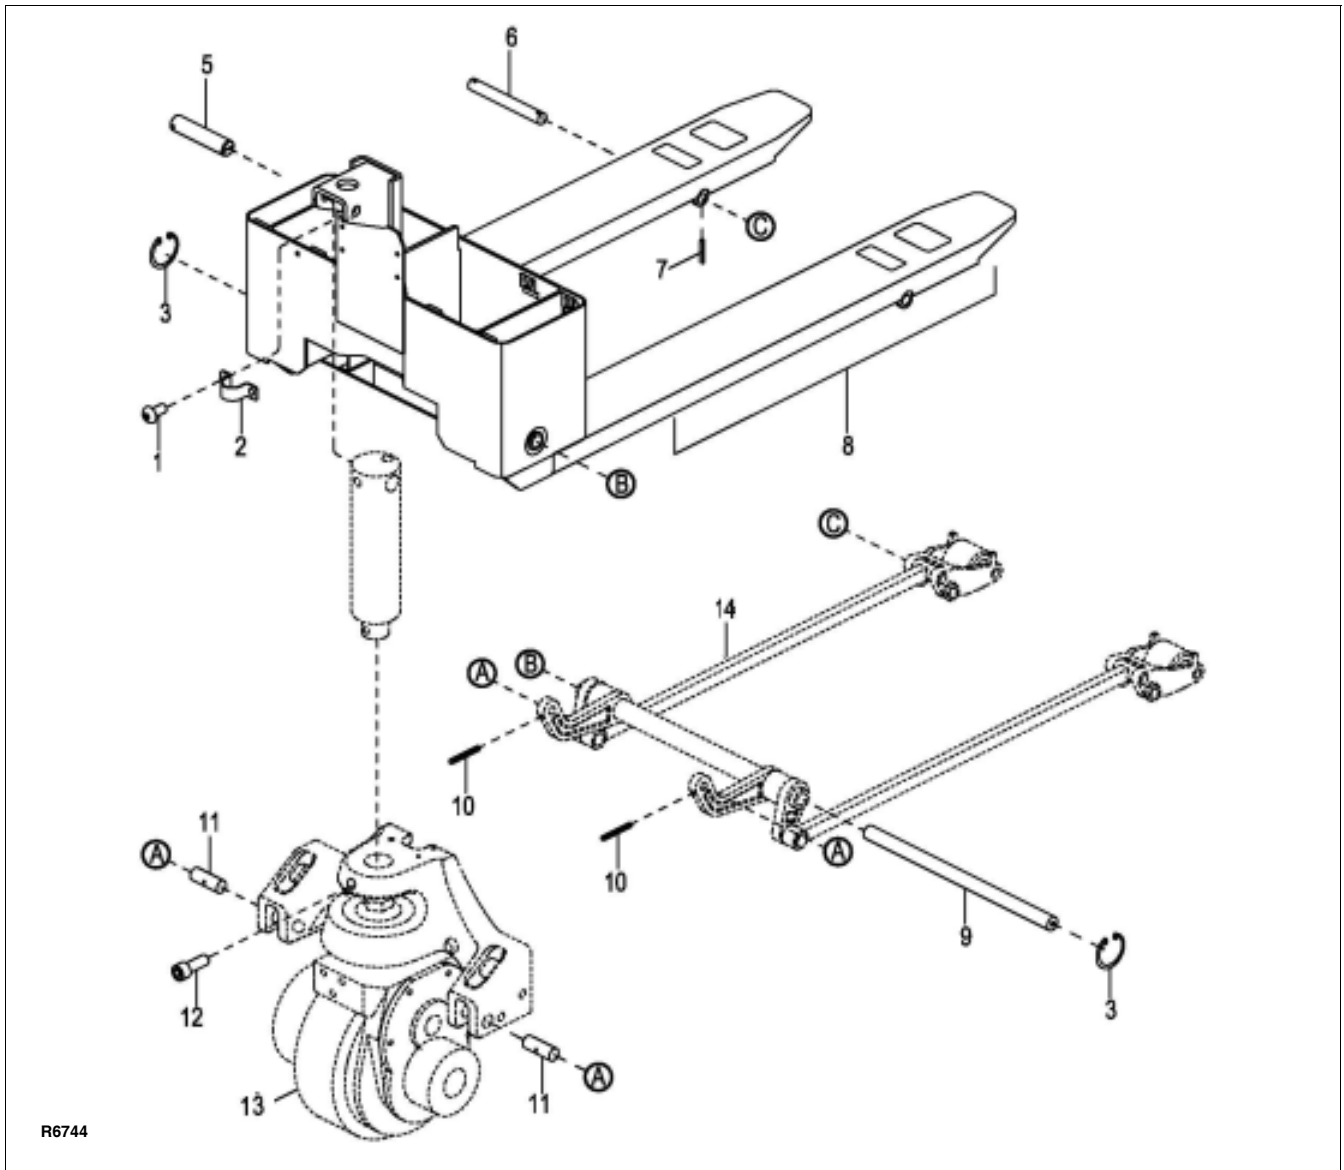
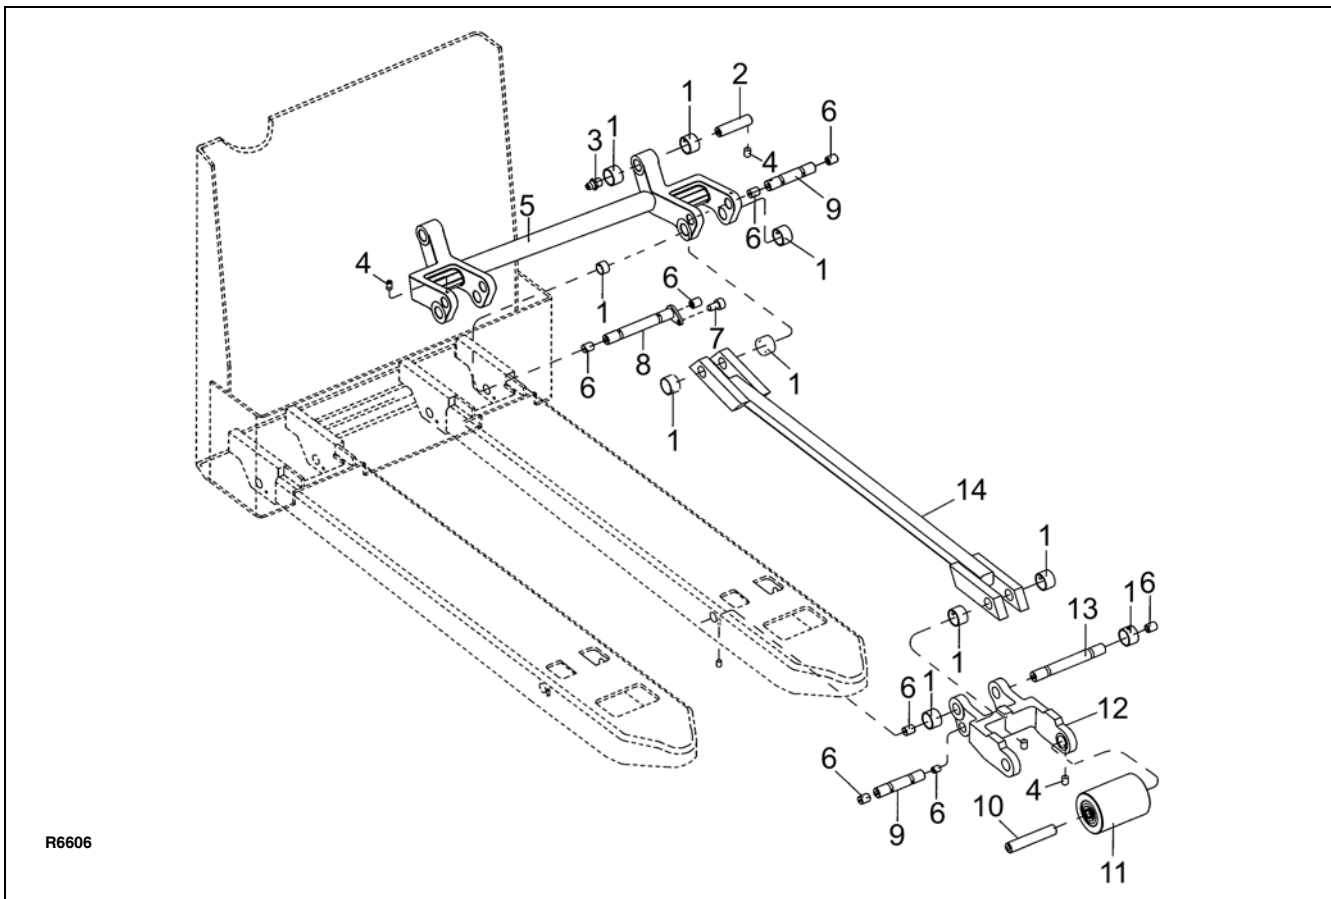

Figure 8-1 Frame
Figure 8-2 Lift Linkage Assembly
1. Lift complete truck to height sufficient to permit access to lift linkage under forks. Provide blocking under frame (8, Figure 8-1), transmission (13) and at tips of the forks.
3. Remove pins (10, Figure 8-1) and remove shafts (11).
4. Remove clips (3) from each side of frame (8). Support link assembly (14) and remove shaft (9).
5. Remove pins (7) and remove shafts (6).
6. Lower link assembly (14) to the floor.
1. Remove pins (11, Figure 8-2), shafts (12) and load wheel (13) from wheel brackets (8).
2. Remove pins (11) and shafts (10). Free brackets (8) from tension bars (6).
3. Remove bushings (9) from brackets (8) if replacement is necessary,
4. Remove clips (2) from link (1) and free tension bars from link (1).
5. Loosen nuts (5) and remove clevises (3) from tension bars (6).
6. Remove bushings (4) from clevises (3) if replacement is necessary.
7. Position bracket (12) in the fork and install pin (9).
1. Position link assembly (14, Figure 8-1) under frame (8).
2. Raise each link assembly (14) into position and install shaft (9) through frame (8). Secure shaft (9) with clips (3).
3. Position wheel brackets (8, Figure 8-2) in frame (8, Figure 8-1) and install shafts (6). Secure shafts (8) with pins (7).
4. Position link assembly (14) and install shafts (11). Secure shafts (11) with pins (10),